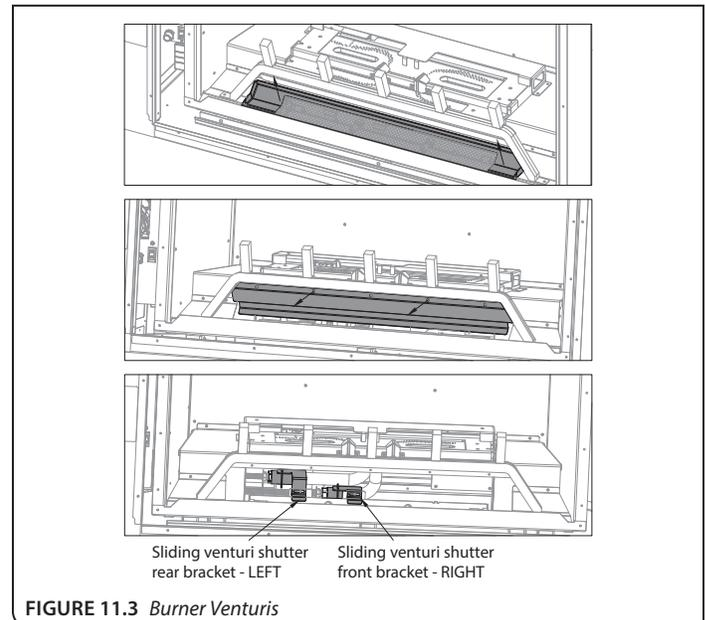

FIGURE 11.3 Burner Venturis
2. Remove the flange attached to the log rack, (5) screws. See **FIGURE 11.3**.